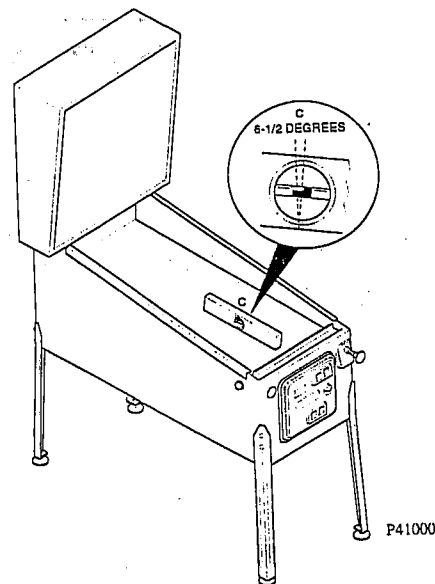

FIGURE 12: PLAYFIELD LEVELING
23) Place a level or protractor on the playfield surface (see Figure 12). Adjust front and/or rear leg levelers to obtain a 6-1/2° incline. Tighten leg leveler nuts firmly.